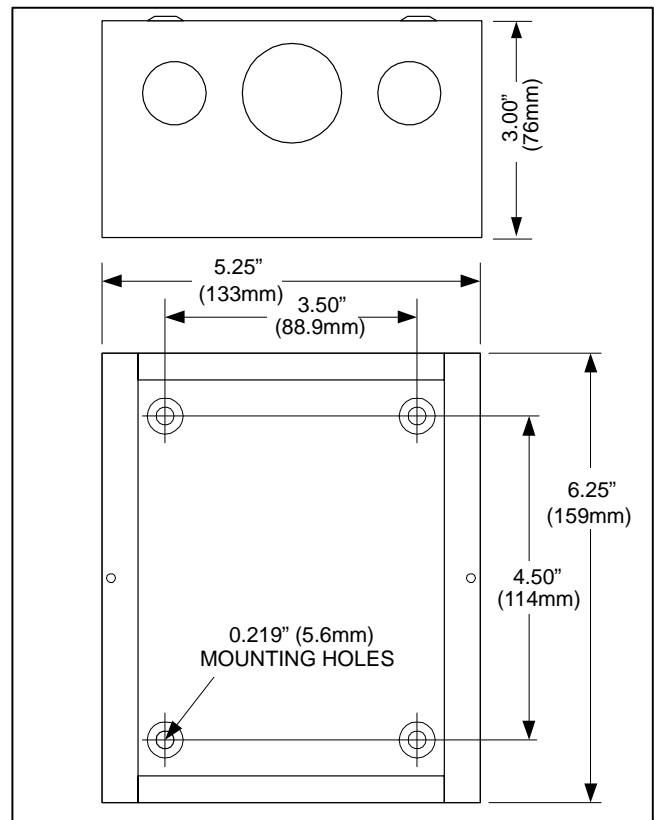

FIGURE 3. ENCLOSURE FOOTPRINT
3. Locate the desired location on wall. Using the enclosure as a template, mark the required holes (see Figure 3). Before cutting or drilling, make sure no wiring, plumbing or gas lines run